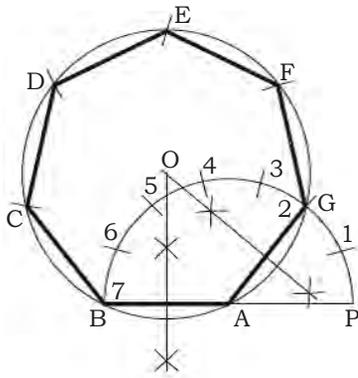

Fig. 1.25: Drawing a polygon
5. Using a compass, bisect the lines AB and A2 to intersect at point O as shown in Fig.1.25